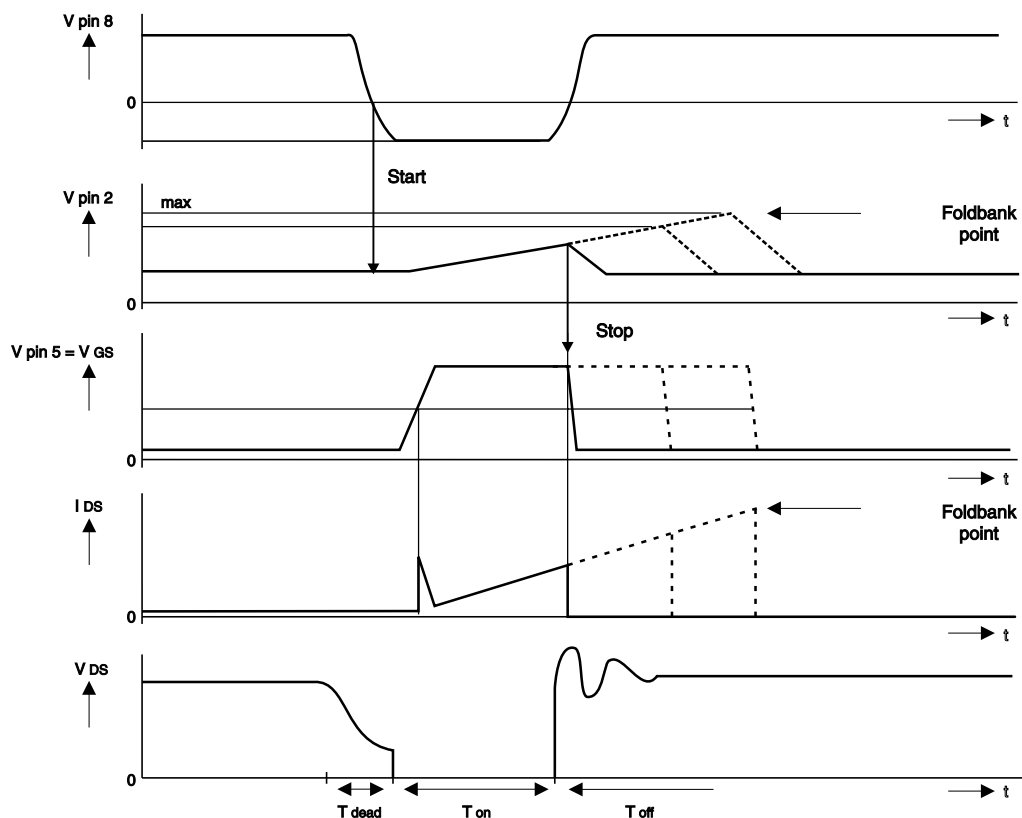

Figure 7.5 Power supply signals
- Start conduction of T7525 (pin 8): A voltage proceeding from winding 4-2 is applied to this pin. The zero crossing detector recognizes the complete discharge of the energy stored in the transformer core, in addition to a dead time depending on C2508. This circuit guarantee that T7525 starts conduction at minimum Vds voltage (see fig 7.5).
Start pulse to T7525 is determined by pin 8 circuit (see fig 7.5).
- Overload protection (pin 2): This is produced if T-on is increased till V2 voltage reaches the foldback point (see fig 7.5). The IC will switch into overload mode (off and on continuously).